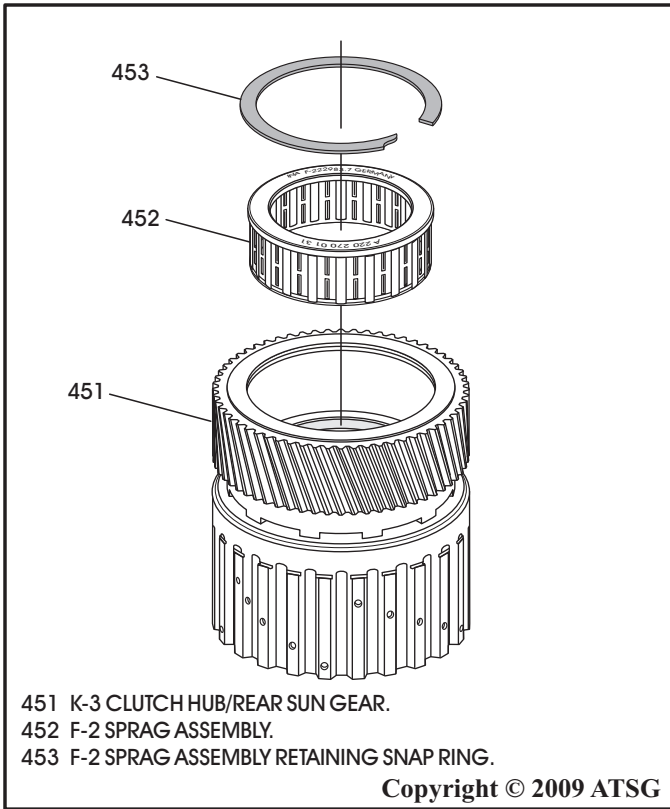

Figure 125
5. The F-2 sprag was upgraded from 14 elements to 20 elements and the Mercedes part number is 220 270 01 31. The F-2 sprag uses 1 brass end bearing that is integral to the cage and uses only one snap ring, as shown in Figure 125. The 14 element sprag is known to slip, which create gear ratio error codes.
6. Install new 20 element F-2 sprag into the rear sun gear, as shown in Figure 125.